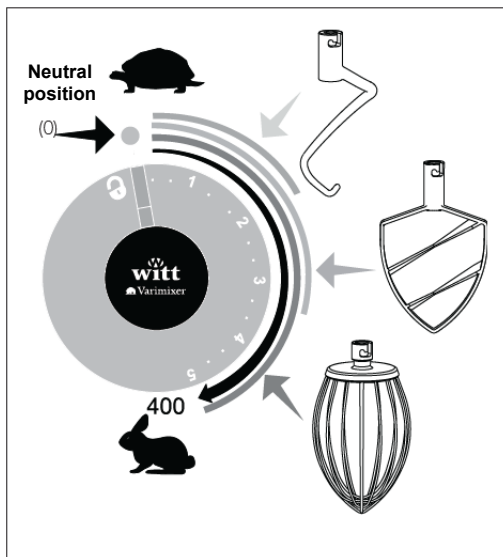

Fig. 6
- G. Start the mixer by turning the dial away from the locking symbol and past 1. To avoid splashing and dust from flour, it is recommended to increase the speed gradually until the required speed is obtained (fig. 7C), (see fig. 6 for recommended speed settings).